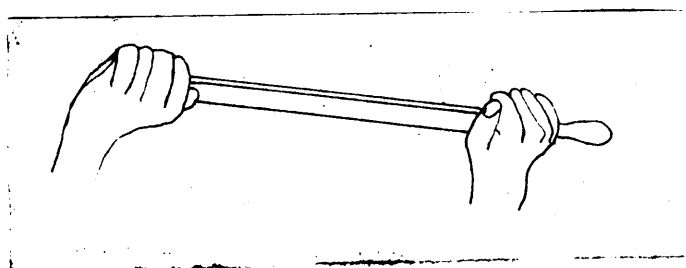

Figure 11.
9. Draw filing is used chiefly in smoothing long rough surface. Grasp each end of file as shown in(Figure 11).